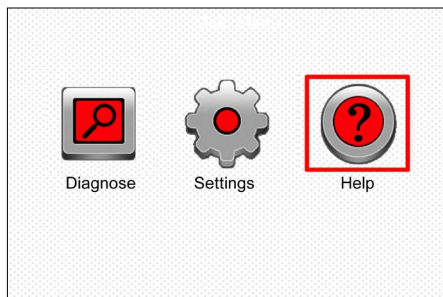

Figure 4
- When the tool has powered up and entered the main menu screen, place cursor on the Help icon (See Figure 4) and press the **OK** button.